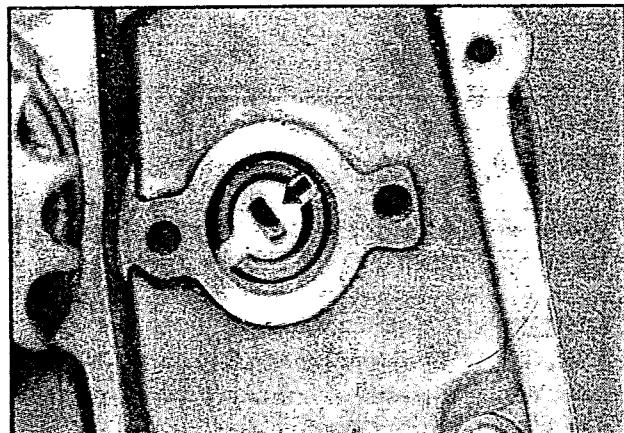

Fig 3.100
- Align central driven spigot of the pump with the slot in the oil pump drive piece which is positioned on the end-slot of kick starter gear (fig 3.100)